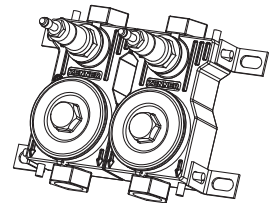

Fig. 3 Possible attachment methods
- 2.3. The angle supports allow different attachment methods (figure 3).